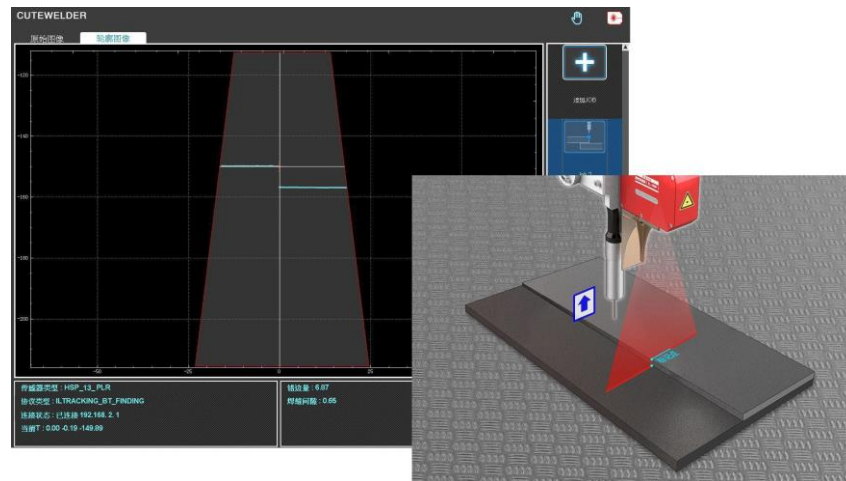

Figure 8-18 Location diagram
Step3. Move the robot so that the sensor laser irradiates the feature point, that is, the laser irradiates the mark point, and the red cross feature point under the contour image interface of the CUTEWELDER software is located in the center of the image window, as shown in Figure 8-18. Click <Record>, and the X in front of it will turn into ✓ after the record is completed.